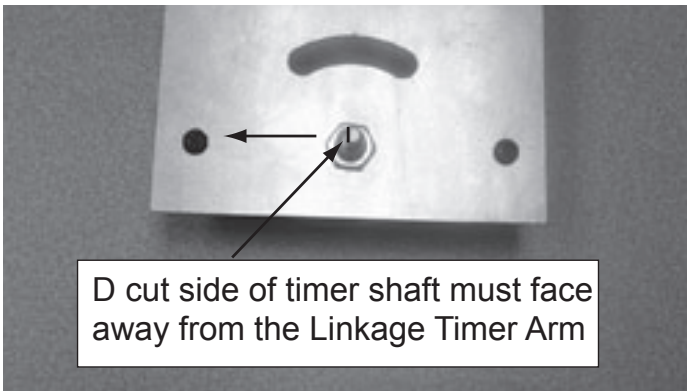

**Figure 4.32 D Cut on Shaft**
8. Install new timer using same two screws. It is very important that the D cut side of the timer shaft is facing the opposite side of the linkage timer arm. See Figure 4.32.